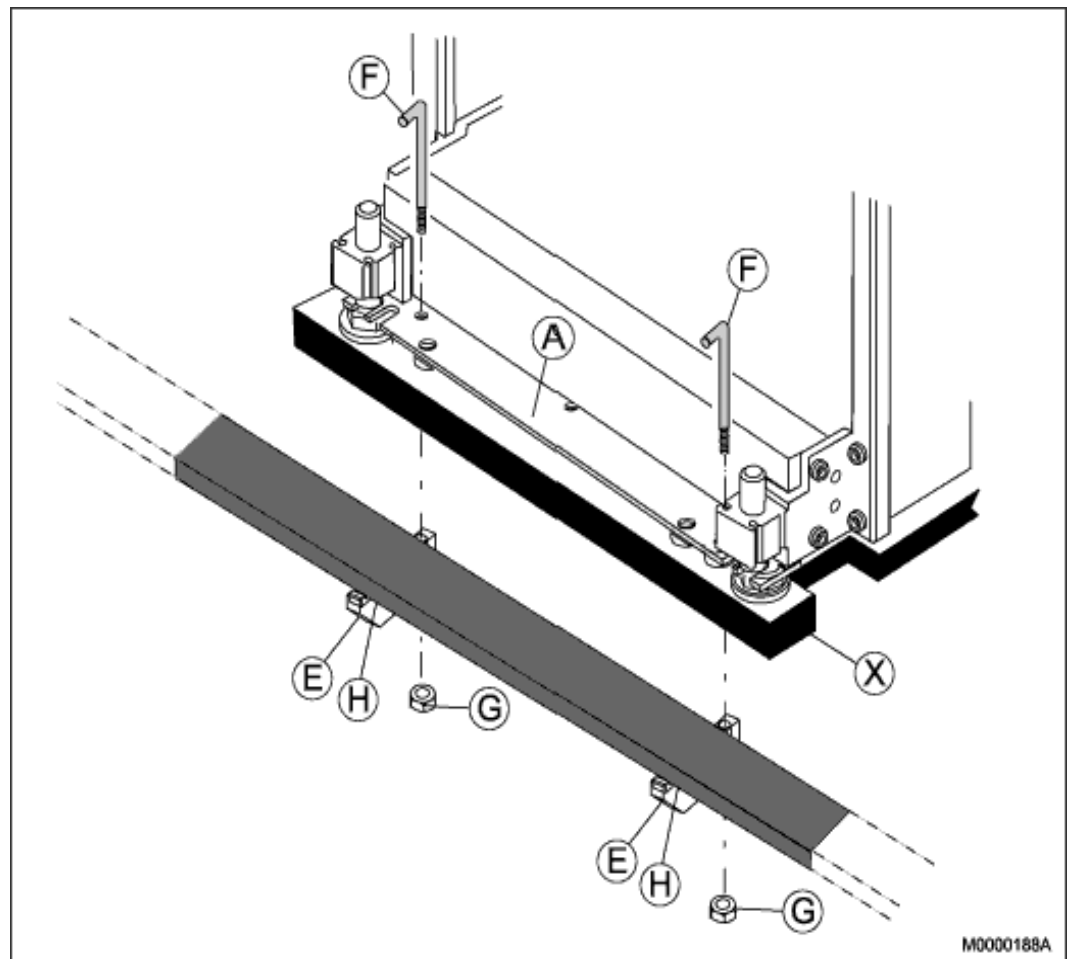

Figure 6: Installing the Tip Protection on a Raised Floor
1. Insert two clamps (F) through the yoke (A) and the floor (X), see Figure 6:Installing the Tip Protection on a Raised Floor on page 13
2. Secure two supports (E) with two insulated plates (H) to the secondary section of the raised floor by using the two clamps (F) and two nuts (G).
3. Tighten the two nuts (G) from the underside.